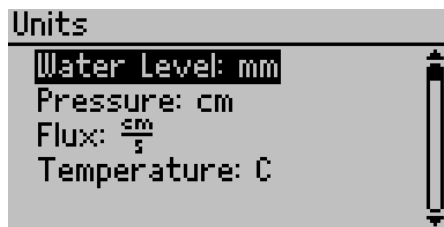

Figure 22 Editing Units options
- **Units.** Edit the preferred units on all device screens and the units that appear in downloaded data (Figure 22).